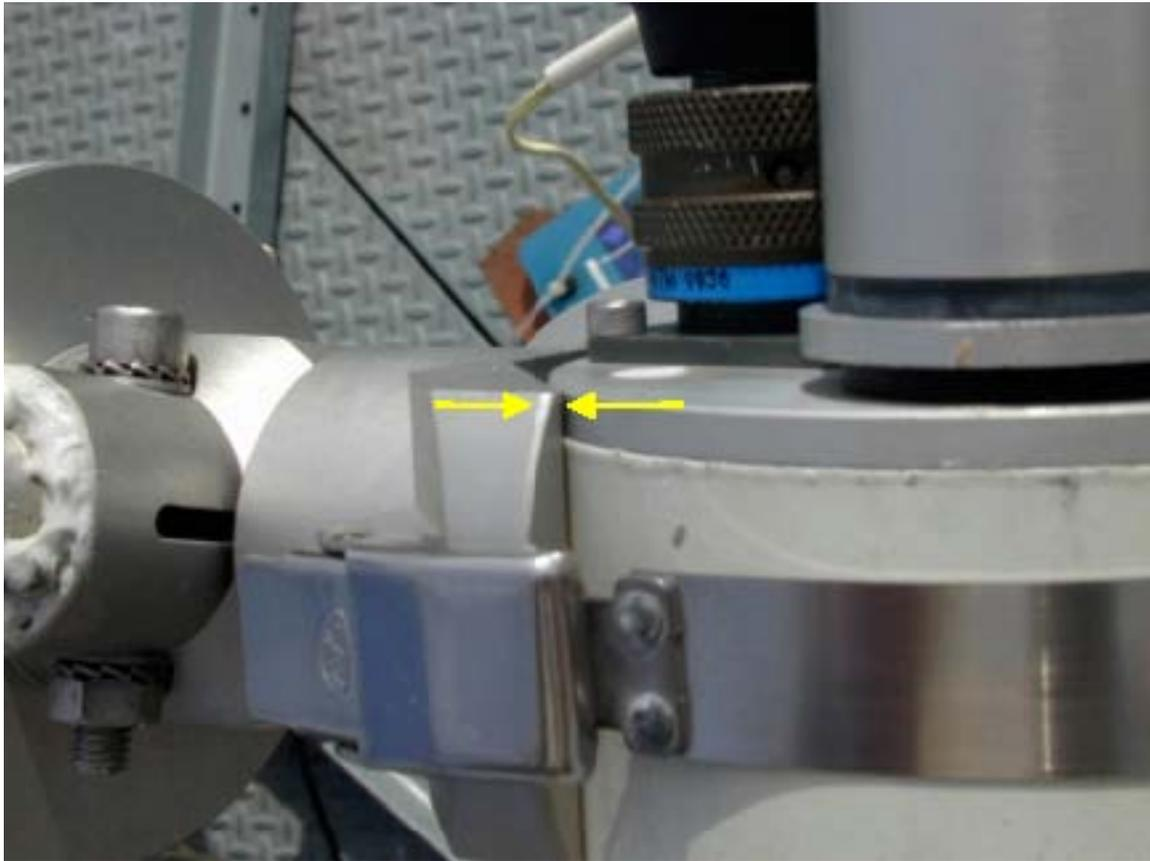

Figure 2 Attached sensor head edge should be flush with the robot claw edge
1. The round connector end of the data cable should be attached to the sensor head, and the flat connector should be plugged into the white Cimel control box. Strap the sensor head to the robot metal claw using the silver metal band. Make sure that the face of the sensor head is flush with the edge of the metal claw (**FIGURE 2**).